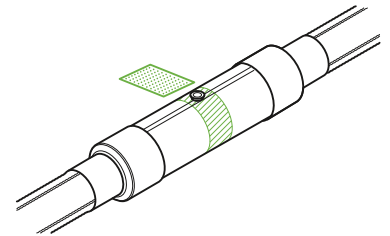

Fig. B12.2.15
15. Cut the dried foam from the sleeve with a knife. Lightly abrade the middle 150 mm section of Heat Shrink Sleeve, ensuring all of the pipe's circumference is prepared (Fig. B12.2.15). Warm up the prepared area using a gas burner.